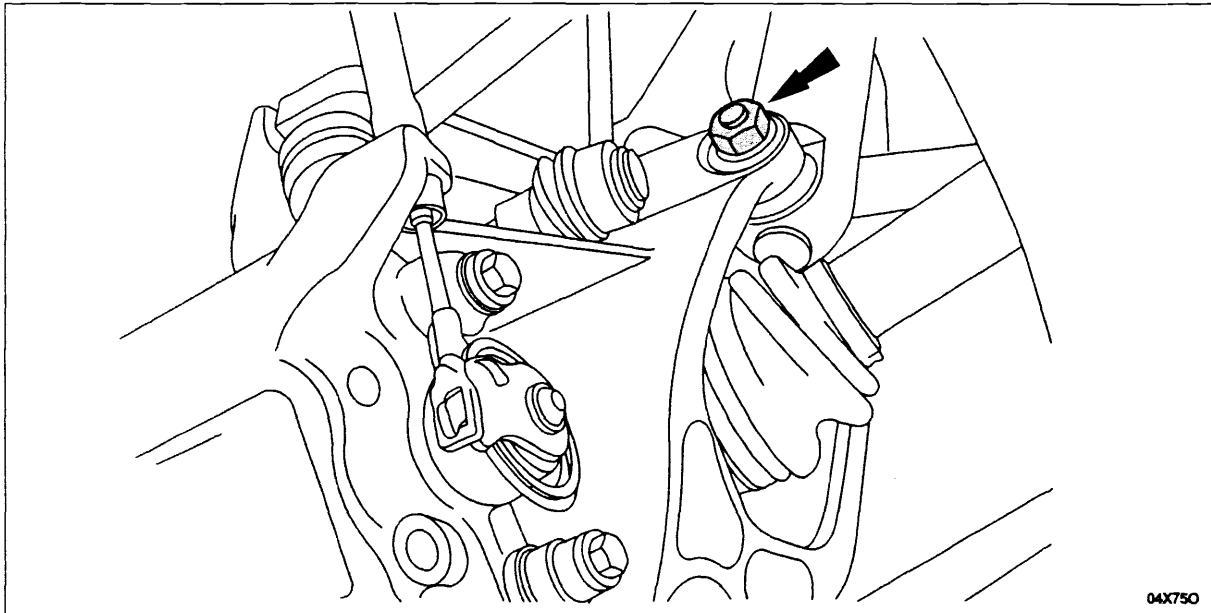

FIGURE 15
6. Remove the lower shock absorber and spring assembly nut and bolt, then remove the shock absorber and spring assembly from the vehicle. Discard the nut only. See Figure 15.